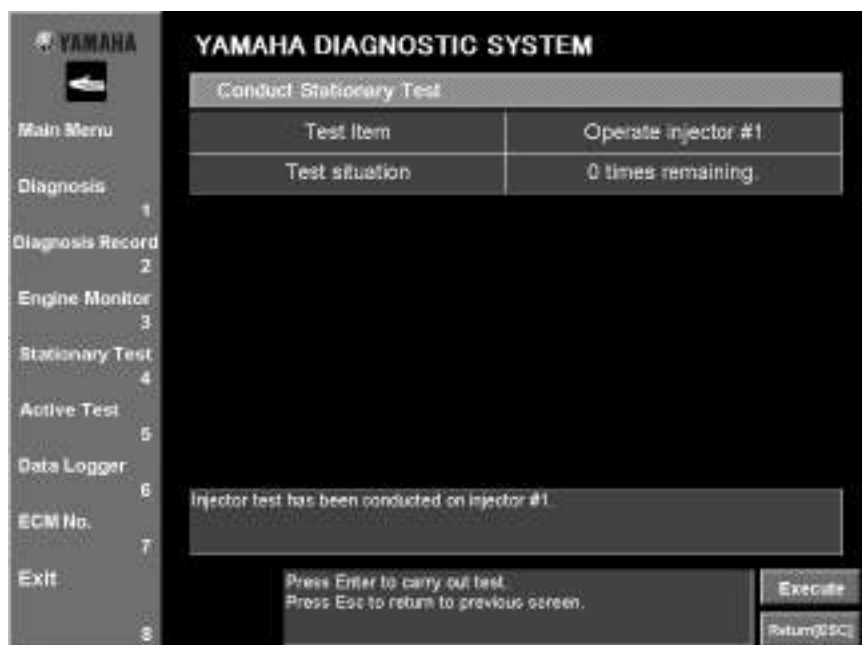

Fig. 51
- To perform the test again on the same cylinder, click the **Execute** button or press the Enter key on your keyboard. To perform the test on a different cylinder, click the **Return [ESC]** button or press the Esc key on your keyboard to return to the window where a different test can be selected. (Fig. 51)